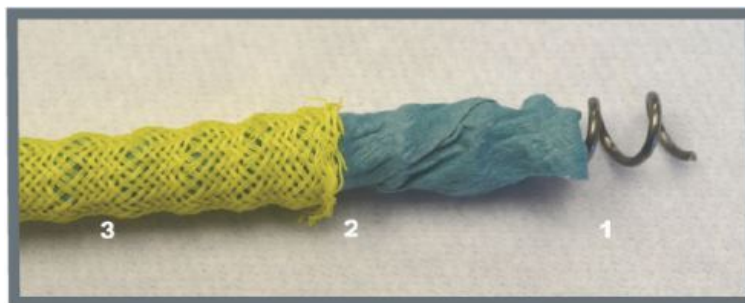

Figure 2. INJECTO® Tube Construction
A high strength spiral wire coil (1) prevents collapse during concrete placement, while the non-woven filter membrane (2) prevents the tube from being clogged with concrete particles. A bright yellow reinforced mesh sleeve (3) protects the tube and allows for easy inspection before the pour. Wherever old to new concrete surfaces join, the INJECTO® system can be easily installed (see Figure 2).